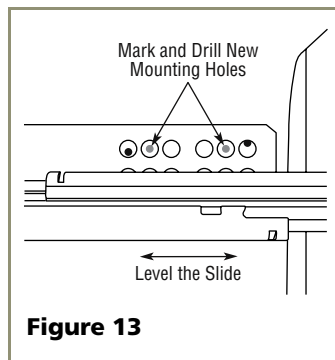

**Figure 12**
3. Retighten the screws. See **Figure 12**.